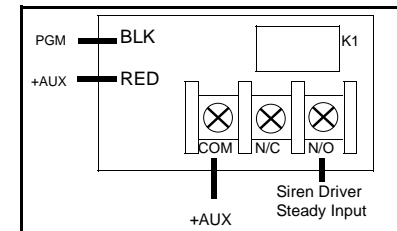

FIGURE 6 KEYFOB/KEYSWITCH CHIRP
(4) **Keyfob/Keyswitch Chirp** - Program to chirp the PGM Output (1) one time when the panel is armed or (2) two times when the panel is disarmed. Wire as shown in Figure 6.